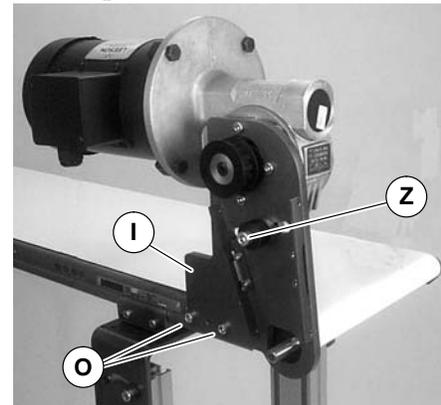
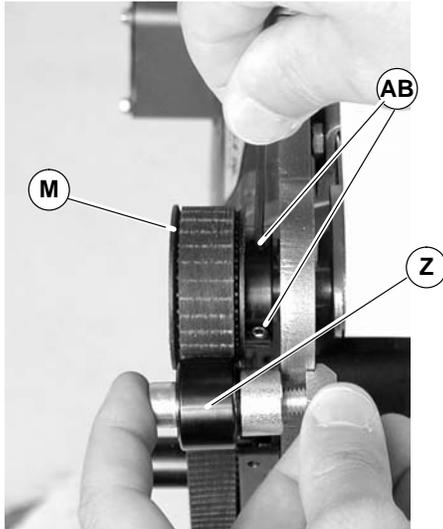

Figure 11
Figure 16
4. Attach mount assembly (I of Figure 11) with screws (O). Tighten to 80 in-lb (9 Nm). For 4100 conveyors, proceed to step 7.
9. Remove cam bearing and spacer (Z of Figure 11). Place the cam bearing and spacer (Z of Figure 16) next to the driven pulley (M). Ensure the flanges of the driven pulley are aligned with the cam bearing. Tighten driven pulley set screws (AB). This will allow for proper belt alignment while conveyor is in use. Install cam bearing and spacer (Z).